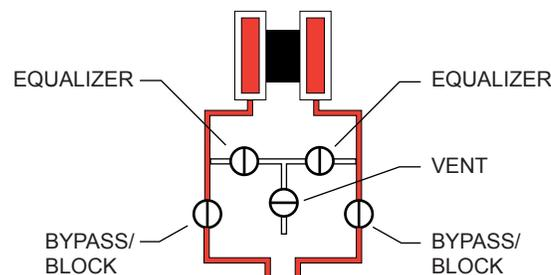

Figure 2.18—Valve positions for placing the Scanner into operation
1. Close the vent valve (Figure 2.18).